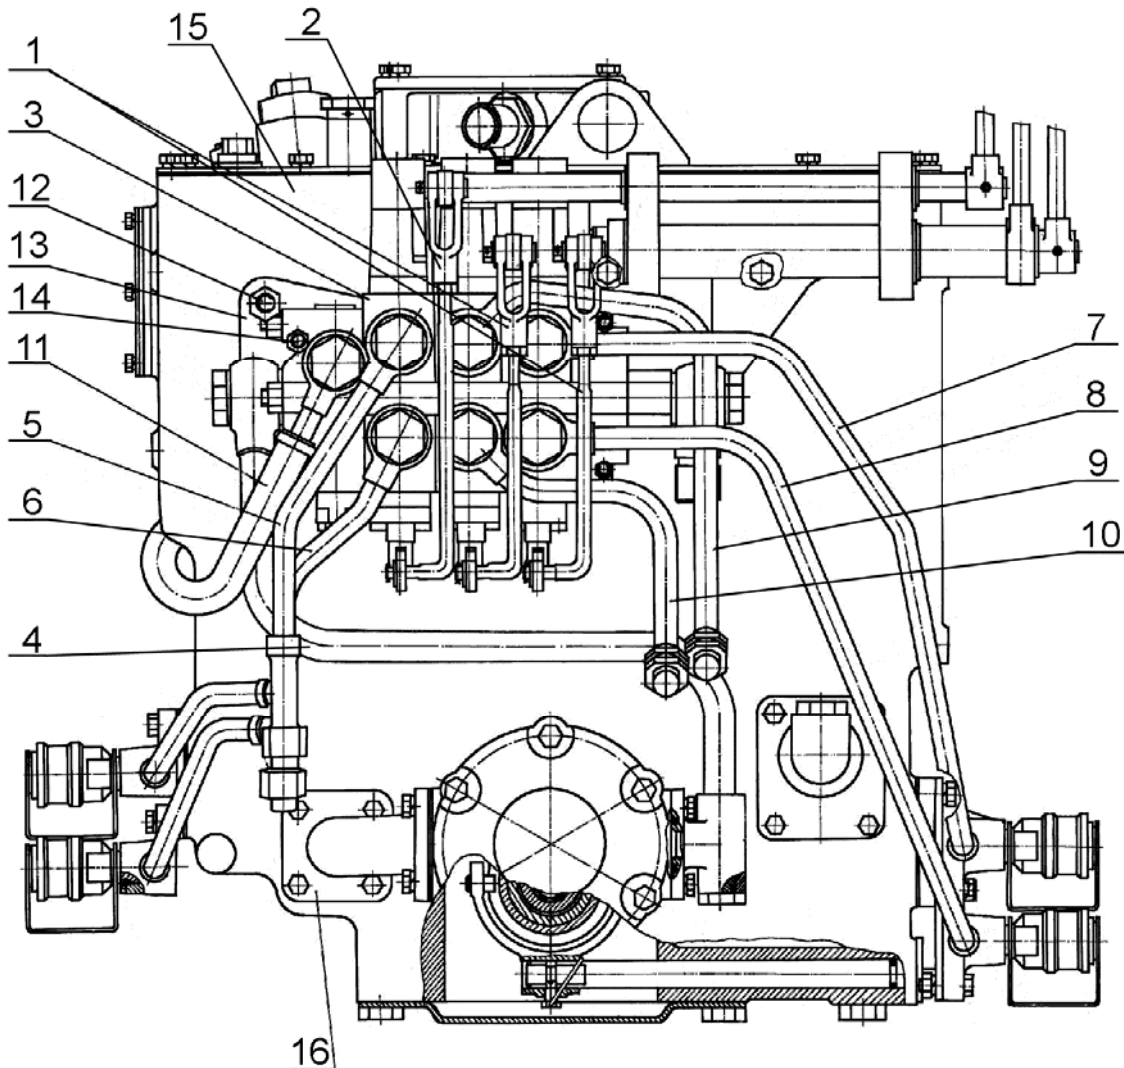

Figure 9.9
a) disconnect control tie-rods 1, 2 from distributor 3 (Figure 9.9);
b) disconnect from distributor (3) pressure oil line (4), oil lines of outlets 5, 6, 7, 8, 9, 10, drain oil line 11;
d) unscrew three nuts (12) that fasten distributor arm (13) to oil tank (15) and dismount distributor (3) together with arm (13);
e) unscrew four bolt (14) that fastens distributor (3) to arm (13).